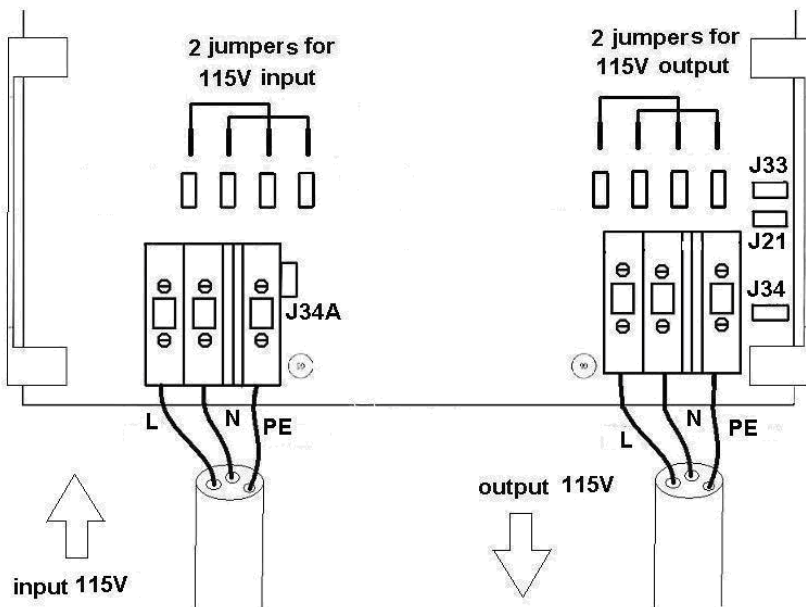

Figure 3: Jumper settings for 115/120V input and/or output
2.2.3 Other models: for 110/120V input and/or output, connect the push-on jumpers as shown in fig 3.